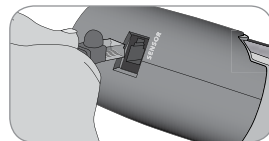

Fig. 32
7. Insert RJ11 plug into jack labeled "sensor" on right side of alarm (fig. 32). Alarm will activate. Press the HOLD button. You have 30 seconds to transfer the patient to the chair before monitoring begins (see instructions on page 12 for use of the HOLD button).